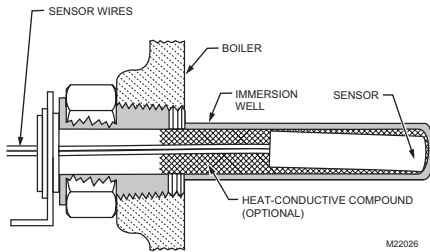

Fig. 5. Replacement sensor installation.
3. Insert the sensor into the well as shown in Fig. 5. (If desired, distribute the heat-conductive compound in the tube prior to sensor insertion, as described in New Installation.)
4. Make sure sensor is fully seated to bottom of well (Fig. 5). Use a small pencil to measure depth of sensor in well, if necessary.
3. Make sure sensor is fully seated to bottom of well (see Fig. 5). Use a small pencil to measure depth of sensor in well, if necessary.